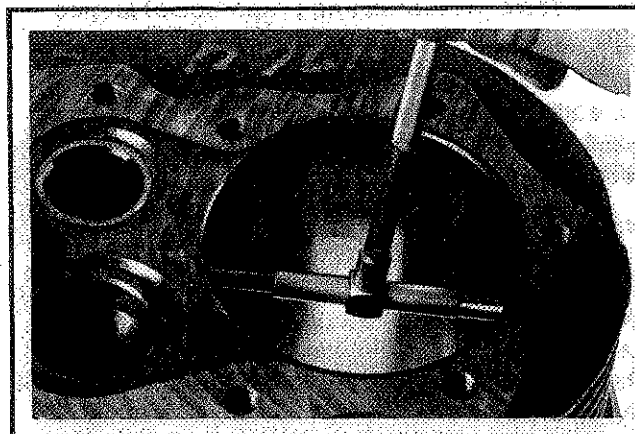

Figure 10-3. Measuring Cylinder Bore
4. After resizing, check the bore for roundness, taper, and size. Use an inside micrometer, telescoping gauge, or bore gauge to take measurements (Refer to Figure 10-3). The measurements should be taken at three locations in the cylinder—at the top, middle, and bottom. Two measurements should be taken (perpendicular to each other) at each of the three locations.